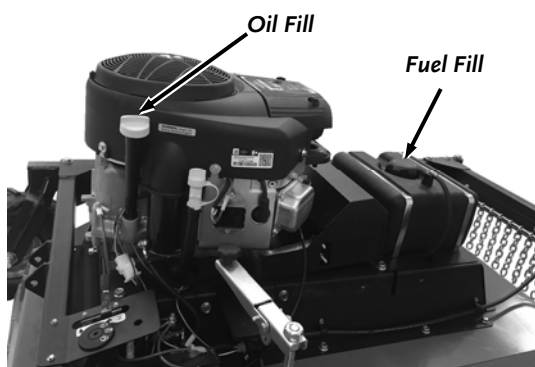

Figure 8
1. Place the machine on a level surface and remove the Oil Fill Cap/Dipstick (**Figure 8**).